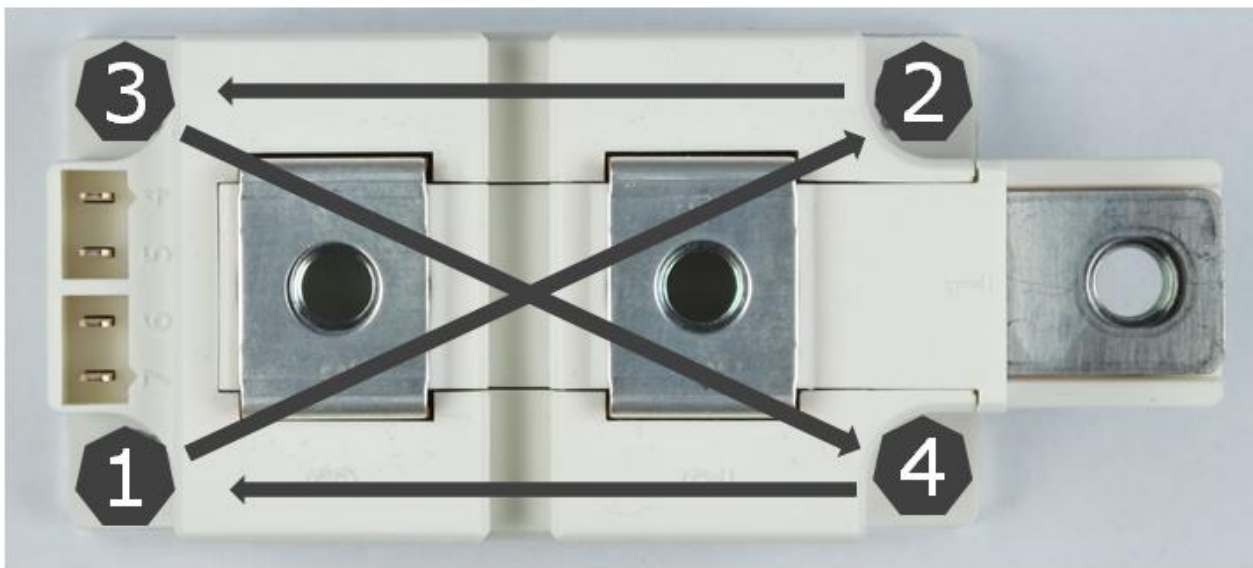

Figure 10: Tightening sequence for the module assembly
3. Tighten all screws to approx. 0.5 Nm in the sequence shown in Figure 10.